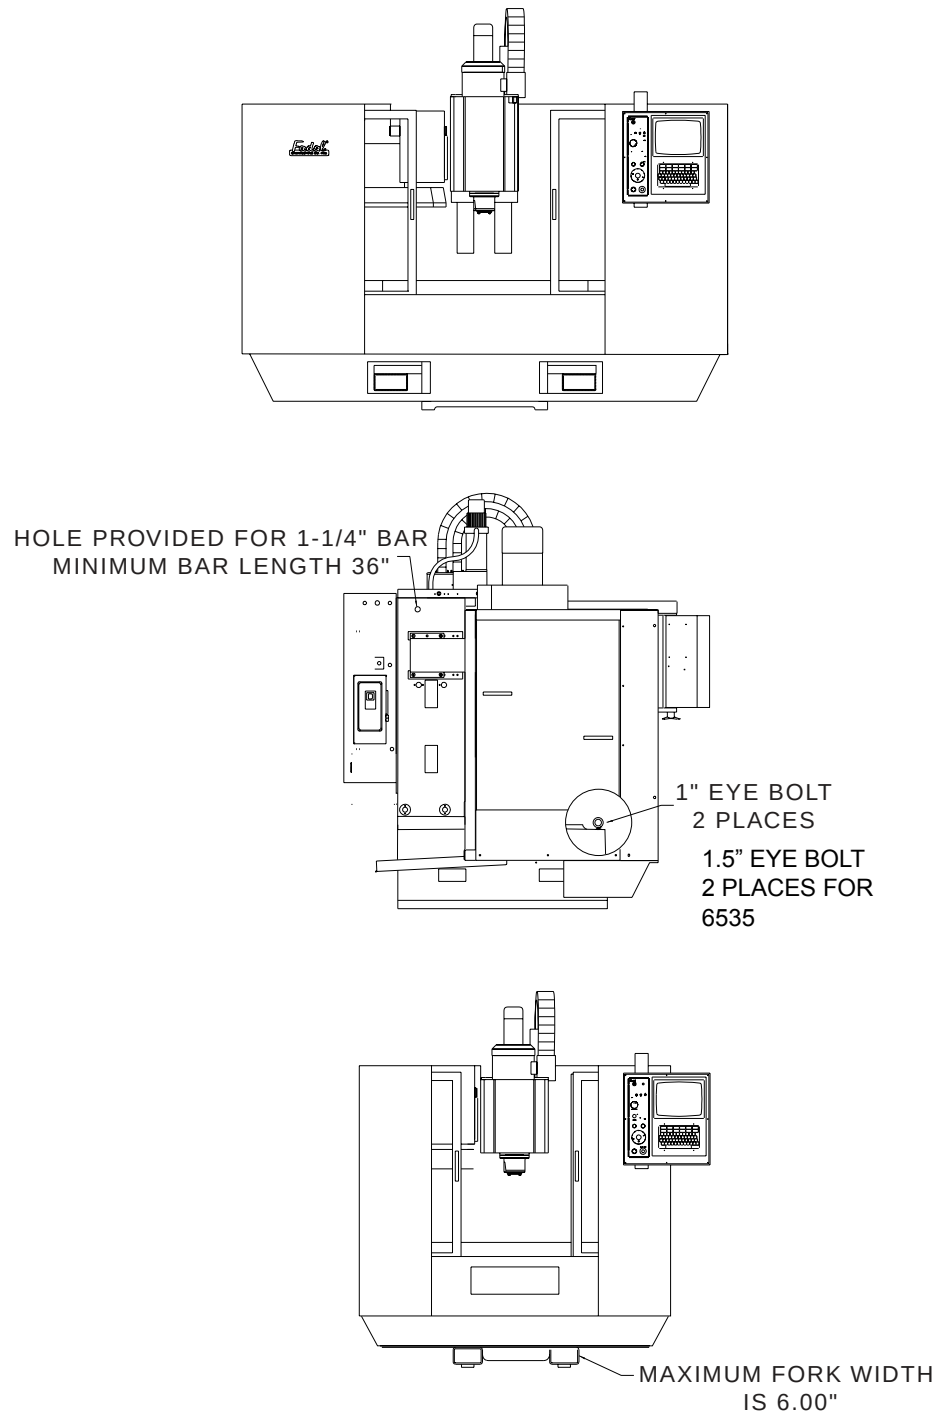

Figure 3-2 Moving the VMC
(See Figure 3-2).
- 5) **STANDARD SHEETMETAL:** Install the 2 each 1-8 eye bolts. Place the 1 1/4" steel bar through the top rear hole in the column side. (See Figure 3-2). Use a properly rated lifting strap around bar and through eyebolts for lifting.